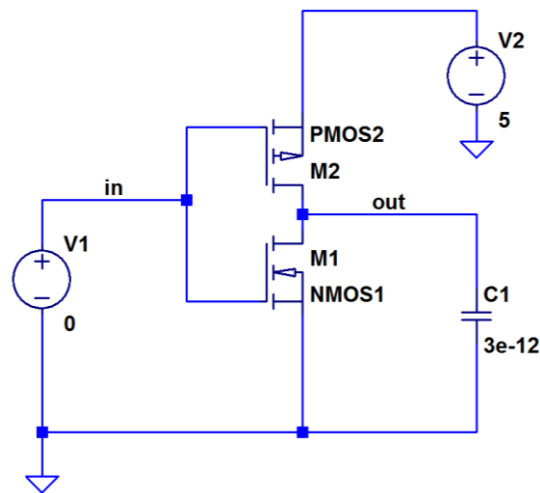

Fig. 4. CMOS inverter.
- a. Draw the schematic in Fig. 4 but use the PMOS1 model instead of the PMOS2 model shown. The load capacitor represents the output capacitance of the inverter.